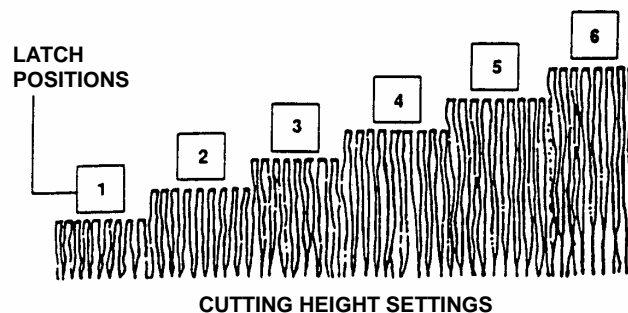

FIGURE 2.7
2. Set all wheels at the same cutting height. The highest cutting position is Notch 6. The lowest cutting position is Notch 1. See Figure 2.7.